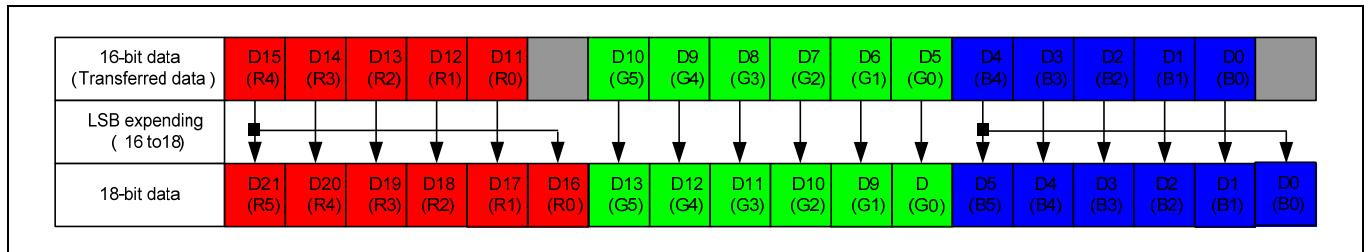

Figure41. Data Expand Method(65K Color Mode)
1. Display data expand (565 → 666) method is decided by IPM command. In default condition (IPM = "00"), MSB data are copied to LSB data for expanding. See Figure. 41 and Figure. 42.